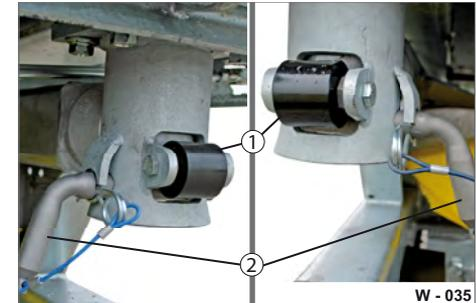

Fig. 35 Tilting bearing secured
- ▶ Apply some adherent grease to the roller (Fig. 35/1).